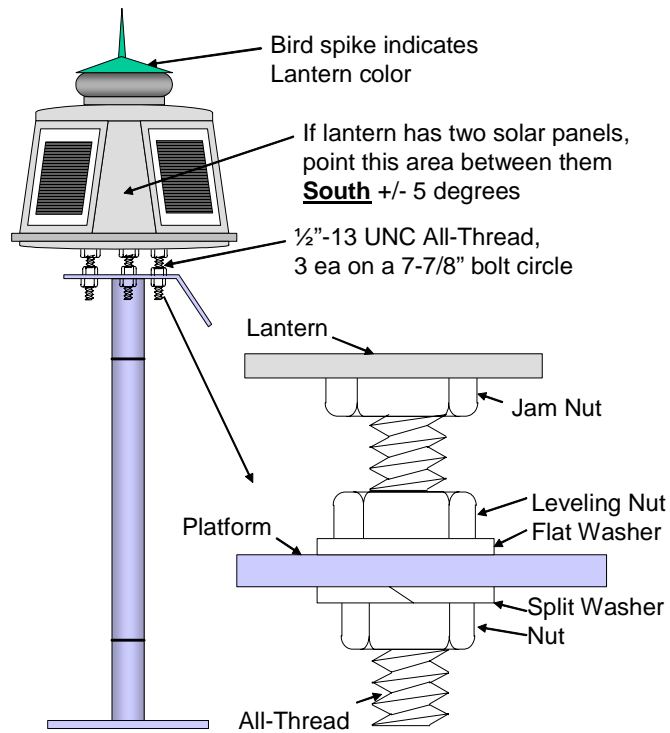

Figure 3-8
- d. On structures, Insert three 6" lengths of stainless steel  $\frac{1}{2}$ "-13 UNC All-Thread in the base of the lantern as far as they will go (about 2"). Thread three  $\frac{1}{2}$ " stainless steel nuts and tighten against the base of the lantern. These act as jam nuts and prevent the All-Thread from loosening in the lantern. Thread three stainless steel  $\frac{1}{2}$ " nuts about half-way up the All-Thread. Place three stainless steel flat washers on the platform, then install the lantern on the platform. See Figure 3-8.